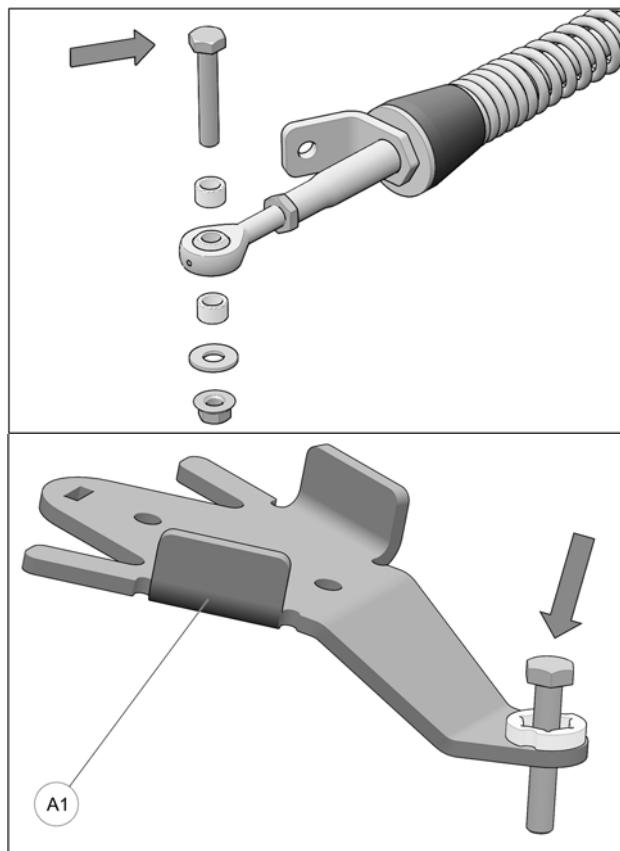

Fig. 13
4. Remove bolt, washer and bushings from front stabilizing rod end and insert bolt in front anchor bracket (**A1**) as shown in Fig. 13